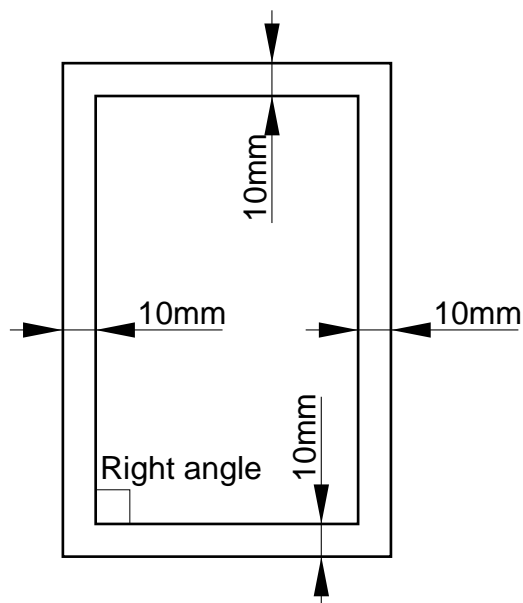

Figure 5-103
- 1) Using an A4 or LTR sheet of copy paper, prepare a test chart like the one shown in Figure 5-103.